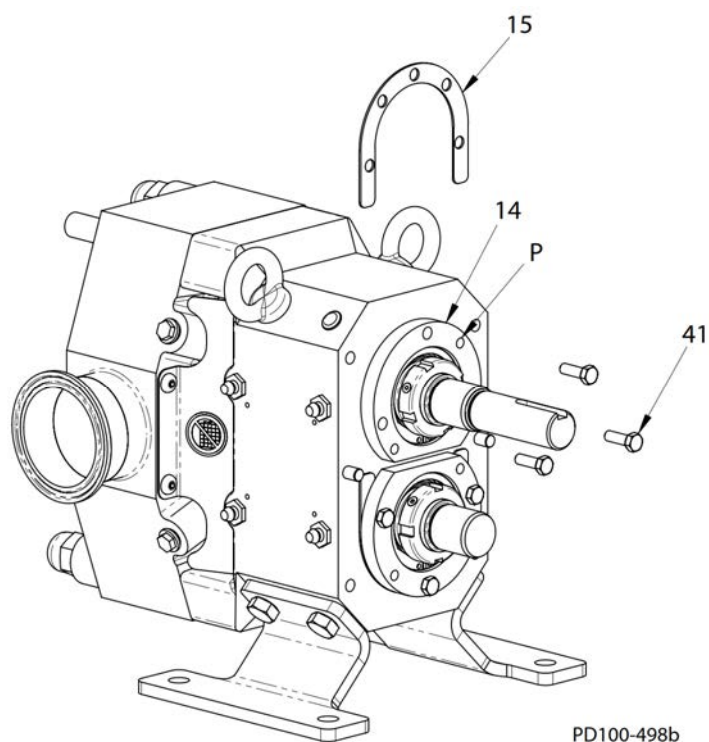

Fig. 58: Install Shims
3. Choose a combination of shims (Figure 58, item 15) to achieve a thickness as close as possible to the calculated amount. Do not exceed the calculated amount.
4. Remove the bearing case screws (Figure 58, item 41), install the shims selected in Step 3, and re-install the screws. To provide clearance for the shims, move the shaft toward the rear by tapping gently on the rotor with a soft-faced mallet or by installing two screws in the jacking holes (item P) in the bearing case flange (item 14).